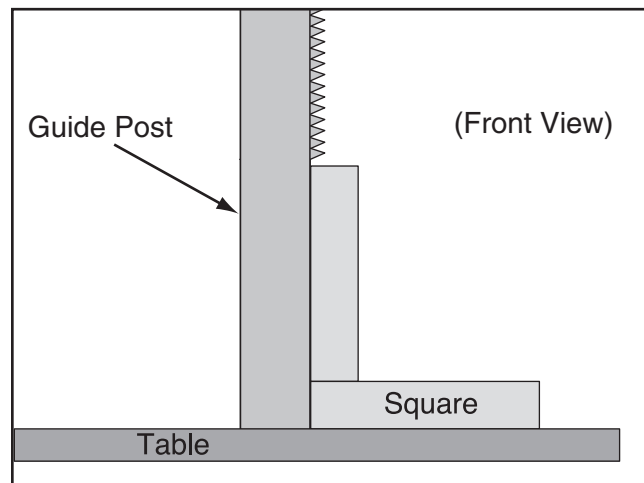

Figure 101. Example of checking guide post squareness.
3. Place machinist's square on table next to right-hand side of guide post, as shown in **Figure 101**.